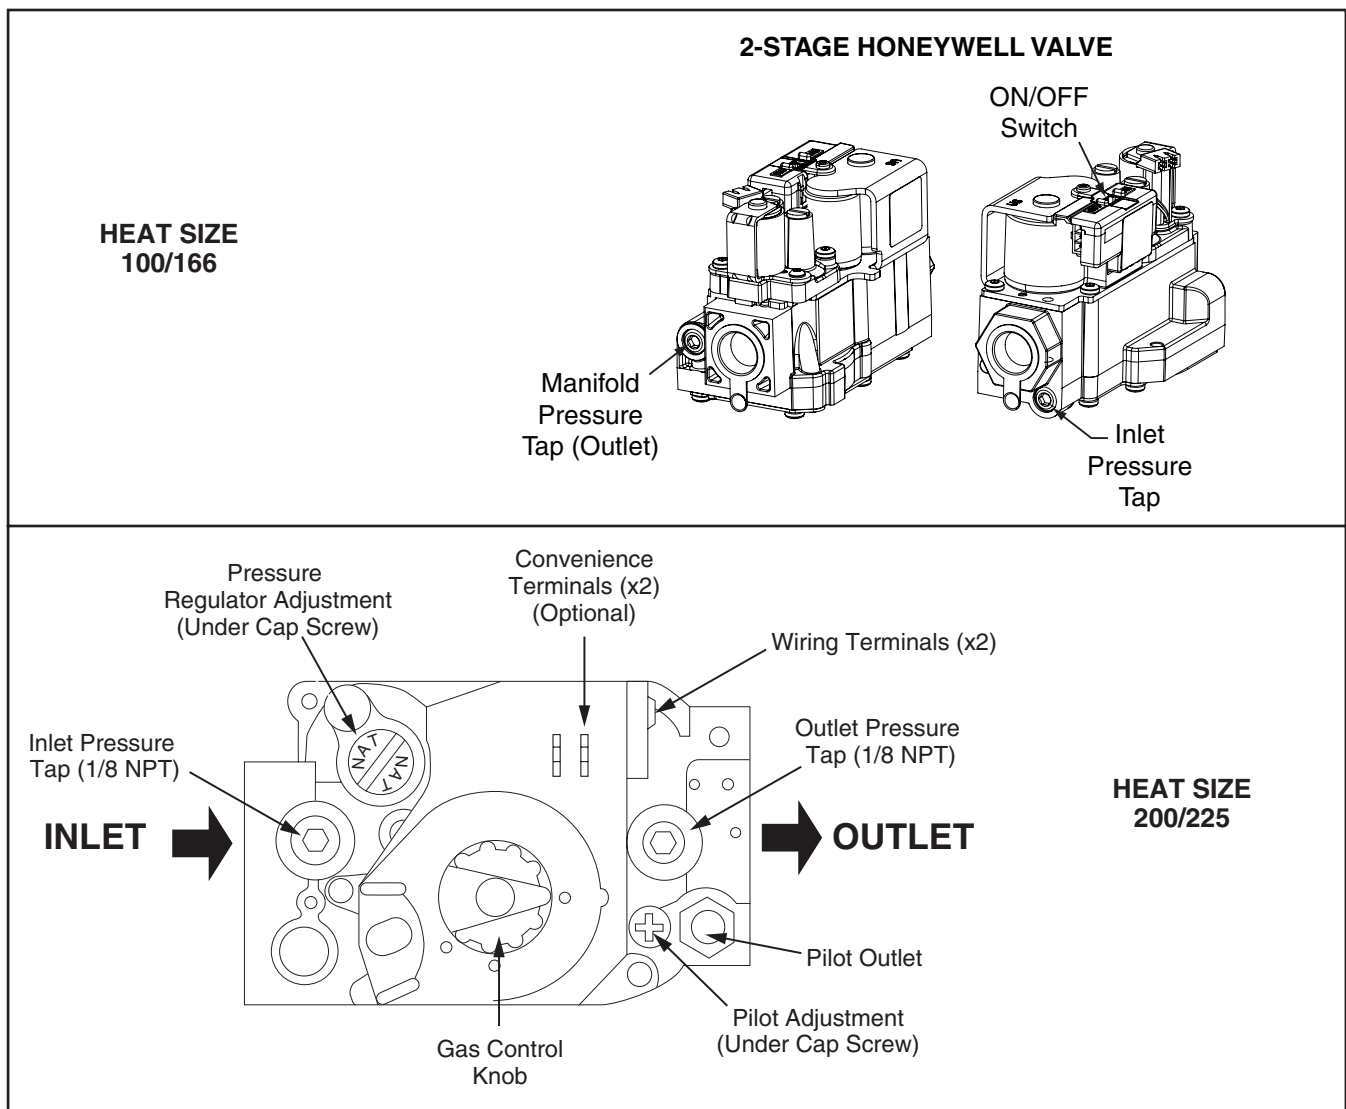

Figure 1. Typical Gas Valves
- Place gas valve ON/OFF switch (see Figure 1) in OFF position.
- b. Place gas valve ON/OFF switch (see Figure 1) in ON position.